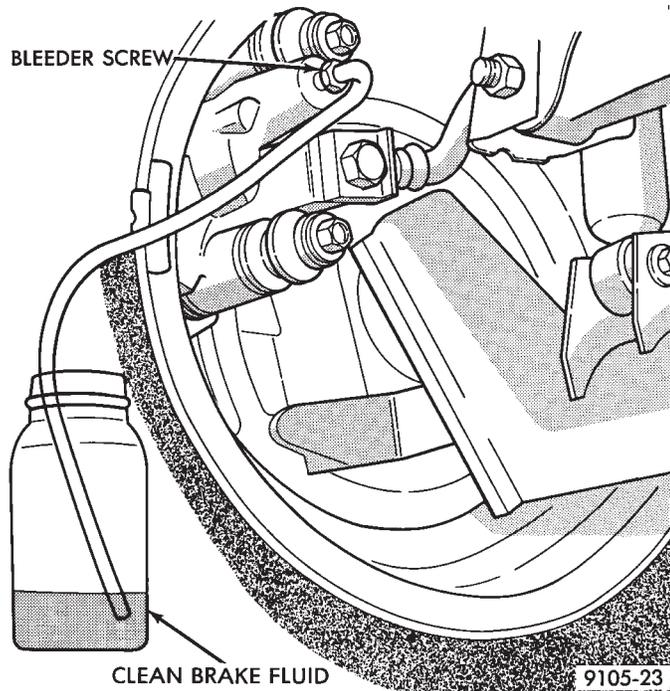

Fig. 3 Bleeding Brake System
(6) Connect a transparent hose to the caliper bleed screw (Fig. 3). Submerge the free end of the hose in a clear glass container, which is partially filled with clean, fresh brake fluid.
(7) With the pressure bleeder turned on, open the caliper bleed screw 3/4 to one full turn allowing brake fluid to flow into the container. Leave bleed screw open until a clear, bubble-free flow of brake fluid is coming from the hose in the container. If the reservoir has been drained or the hydraulic assembly removed from the car before the bleeding operation. Slowly pump the brake pedal one or two times while the bleed screw is open and fluid is flowing. This will help purge any trapped air from the hydraulic assembly. Tighten bleeder screw to 10 N•m (7.5 ft. lbs.) torque.
(8) Step 7 above should be done at all wheel brakes, following the order wheel by wheel as listed below.
(9) After bleeding is completed at all four wheel brakes. Remove the pressure bleeding equipment and bleeder adapter by closing the pressure bleeder valve and slowly unscrewing the bleeder adapter from the hydraulic assembly reservoir. **Failure to release pressure in the reservoir will cause spillage of brake fluid, and could result in personal injury or damage to painted surfaces.**
bled (Fig. 3). Submerge the free end of the hose in a clear glass container, which is partially filled with clean, fresh brake fluid.